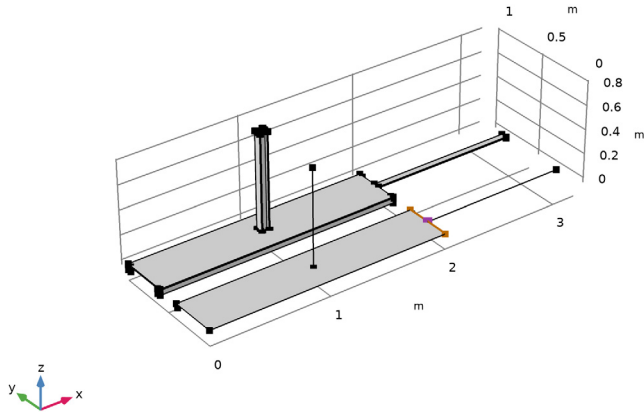

Figure 8: Shell-beam connection where the beam is an extension of the shell
- The central beam is modeled as a beam only for instructional purposes. In practice it would be simpler to treat it as an extension of the plate. This beam has its endpoint connected to the edge of the shell (Figure 8). The part of the edge which is connected is selected as the width of the beam.